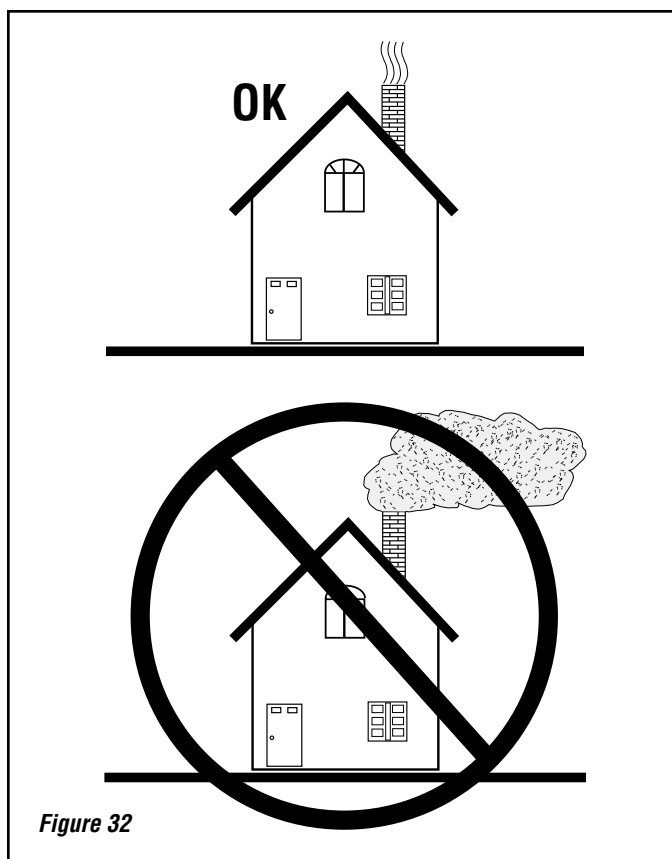

Figure 32
7. For best results, use smaller pieces of wood to get the appliance temperature very high before loading larger wood for sustained burns. If necessary, crack the door to allow ignition of the fuel charge. Now you can add larger pieces of wood and after several minutes of high burn, set the left control for the desired heat output. Check the exhaust in about 15 to 20 minutes (*see Figure 32*). Large amounts of smoke indicate an improper burn setting (either too high or too low). Adjust and recheck in 5 to 10 minutes.
6. Go outside and check your chimney. More than a very small amount of smoke indicates wasted heat, creosote build up and pollution (*see Figure 32*).